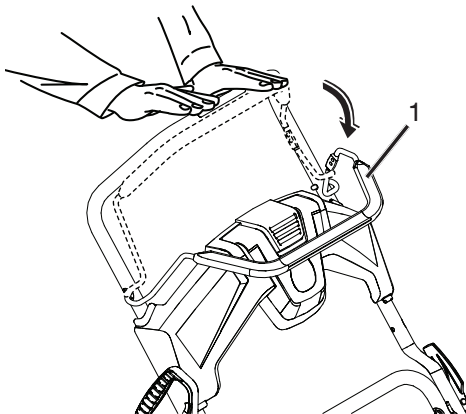

Figure 14
1. To disengage the auger blades, release the control bar (Figure 14).